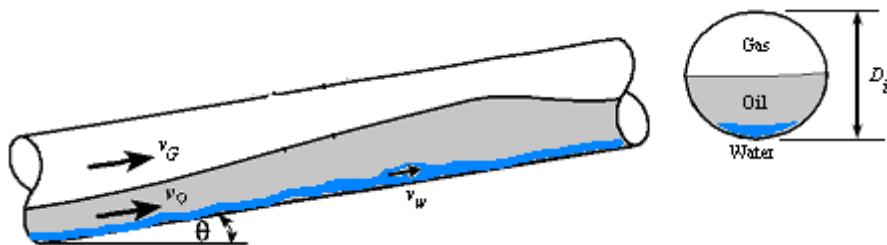

Figure 1. Schematic representation of gas-oil-water flow
- **Inclination:** the angle (θ , Figure 1) between the pipe and the horizontal plane.